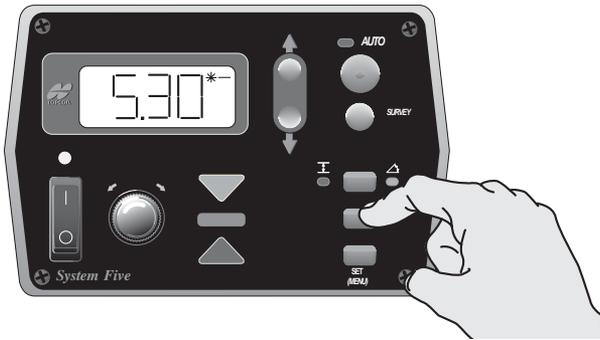

Figure 4-11. Initiate Cross Communication
1. Press and hold the Cross Communication button (Figure 4-11).